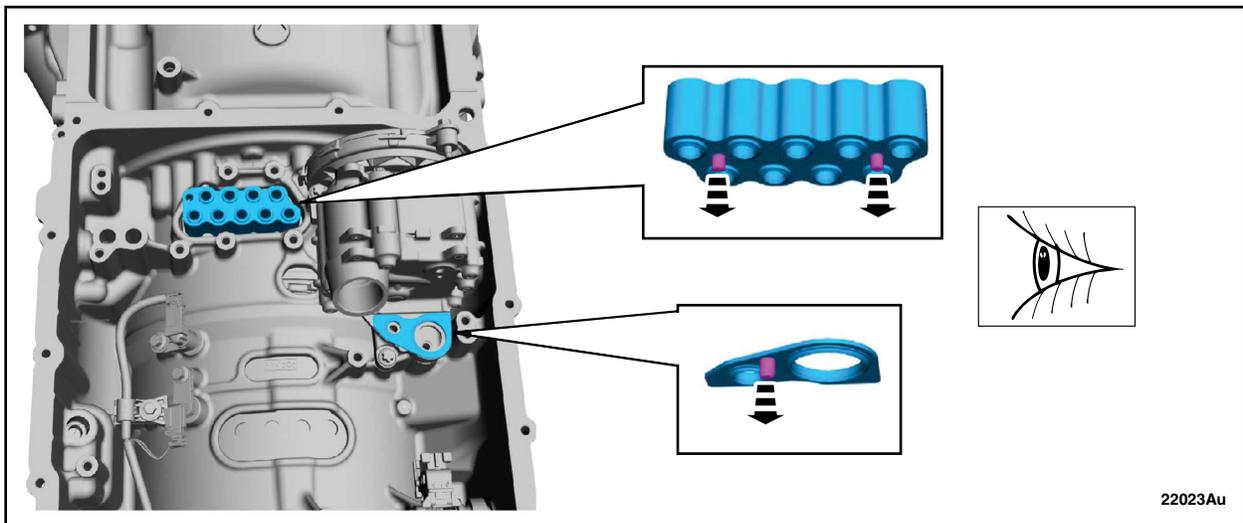

FIGURE 68
77. Guide pins into transmission case and install the main control manifold seal and the fluid pump gasket. See Figure 68.